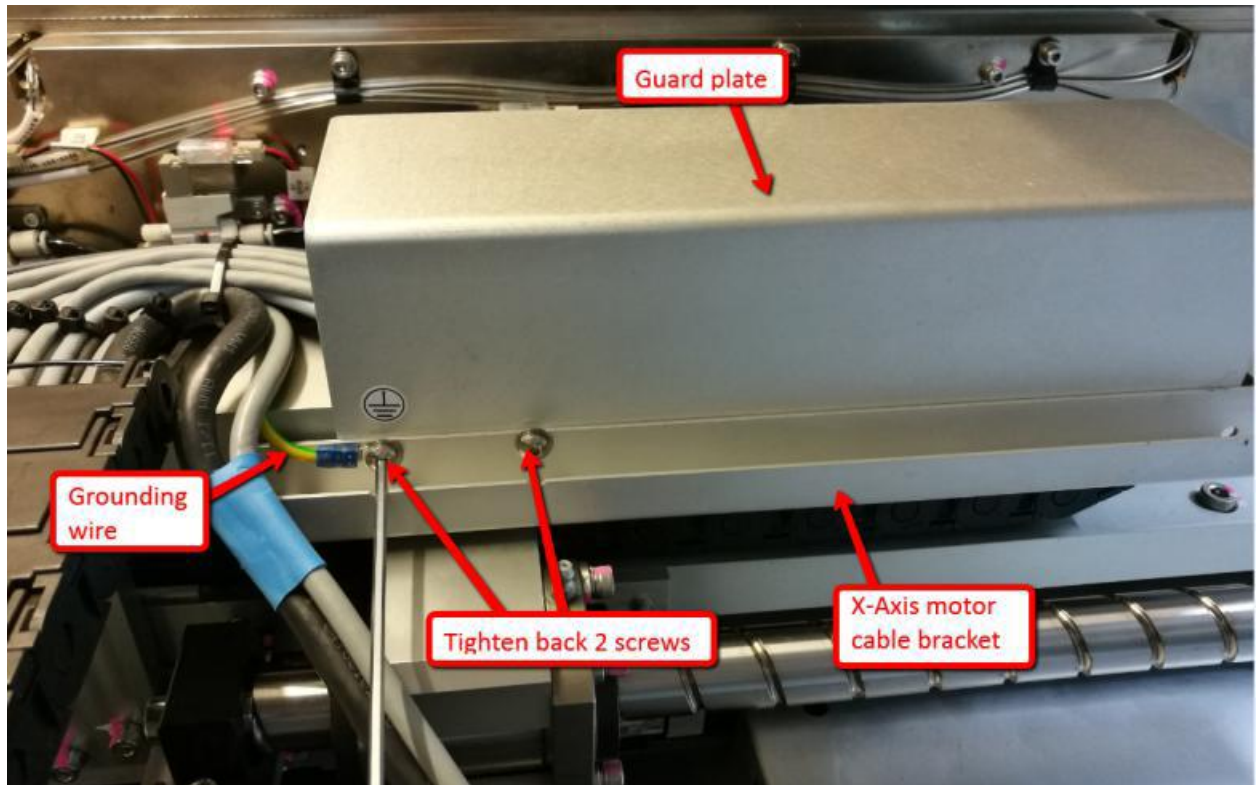

Figure 27
7. Assemble back X-Axis motor cable bracket and Guard plate. Tighten back 2 screws as shown in Figure 27.